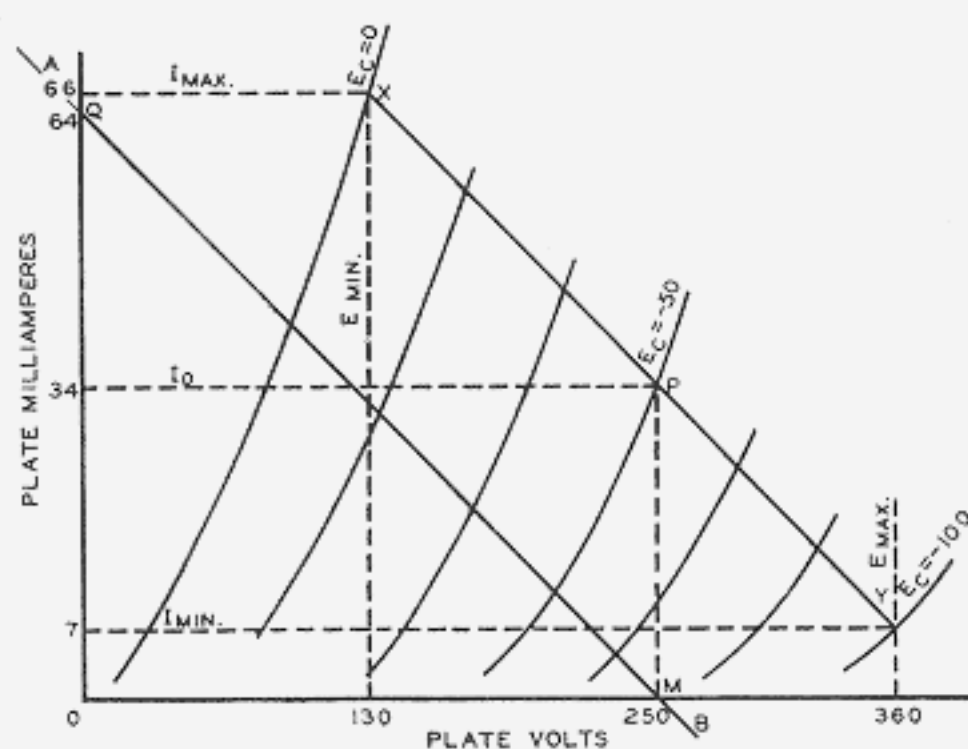

Fig. 8
*Power amplifier output* for triodes can be calculated without serious error from the plate family of curves by assuming a pure resistance load. The proper plate current, grid bias, and optimum load resistance, as well as the per cent 2nd harmonic distortion, can also be determined. The calculations are made graphically and are illustrated by Fig. 8 for given conditions. The procedure is as follows: A straight line XY is drawn on the plate family of curves intersecting the plate voltage at a trial value of plate current at a point (P) and having a slope corresponding to the load resistance chosen. The slope of XY is determined by adjusting the line so that the plate voltage intersection at zero plate current divided by the plate current intersection at zero plate voltage is equal to the trial load resistance value; or, as is sometimes more convenient, by drawing line XY through point (P) parallel to some other line AB which has the proper slope.